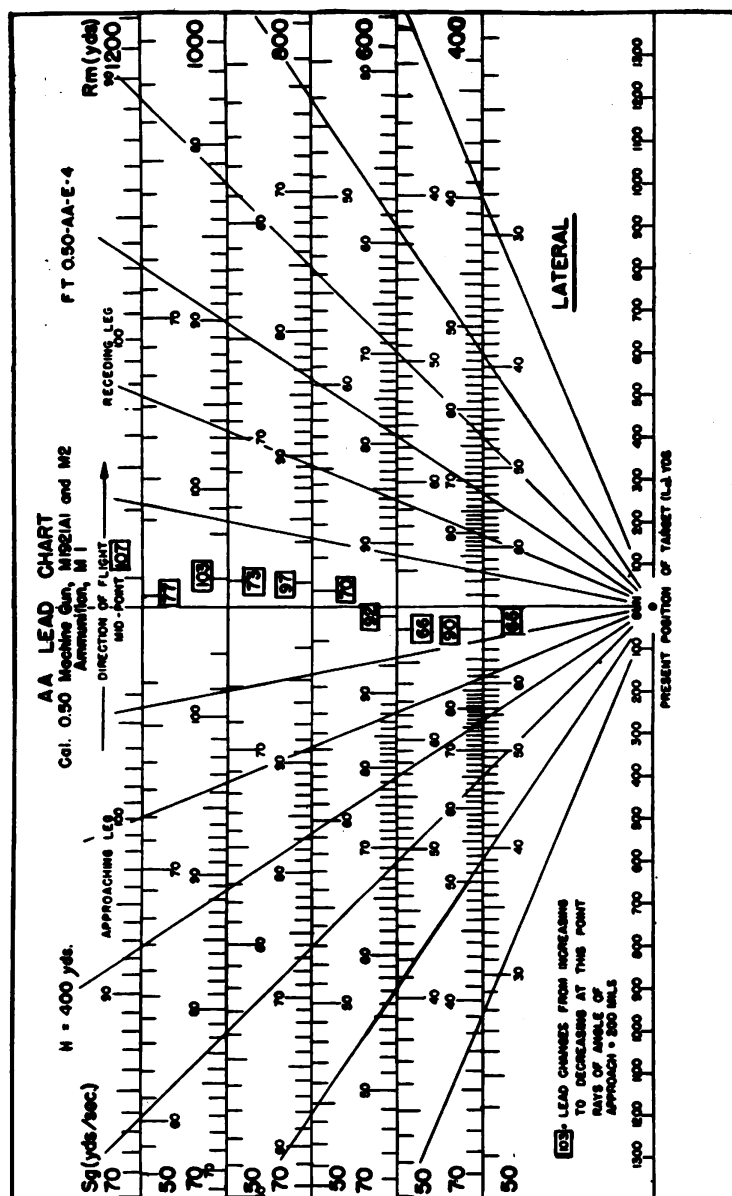

FIGURE 74.—Lateral lead chart.
Q. What factors influence the value of the leads? *A.* Ground speed of target (S_g), minimum horizontal range (R_m), altitude of target (H), muzzle velocity of the gun, angle of dive (for diving target only), and the position of the target (T_o), along the course.
Q. Explain just how an adjuster determines and applies either the vertical or lateral lead. *A.* From a study of lead charts (figs. 74 and 75 and of lead characteristics, from the use of tracer trainer where available, and from actual firing the adjuster gains the knowledge of initial leads for representative type courses and of the direction and rate of change of the leads during those courses. When a target approaches, he estimates the initial lead that will be required at the point where he expects fire to be opened, based on the course and speed of the airplane, and sets this into the control box. If fire is delayed, he sets in new initial leads continuously by changing the leads in the proper direction and at the required rate. When fire is opened, he adjusts his rate of change of leads based on his own and the flank spotter's observation of the tracers. For example, if the tracer stream is moving farther and farther ahead of the target on the approaching leg (fig. 74) of a constant altitude crossing course, the lead is being increased too rapidly. The necessary adjustment of fire would be accomplished by reducing the rate at which the leads are being changed.
44. Lead charts.—*Q.* What is a lead chart? *A.* A representation of the required leads for one or more courses arranged conveniently for ready reference (figs. 74 and 75).
Q. To what does the lead chart in figure 74 apply? *A.* It is the lateral lead chart for caliber .50 machine guns firing M1 ammunition at targets flying on crossing courses at a constant altitude of 400 yards.
Q. What is meant by the minimum horizontal range (R_m)? *A.* The horizontal range to the target at the midpoint of the course (figs. 74 and 75). This is the point where the angle of approach equals 90° .
Q. What minimum horizontal ranges are represented by the courses shown in figure 74? *A.* 400, 600, 800, 1,000, and 1,200 yards. (See heavy numerals on right edge of chart.)
Q. What are the initial leads for the following courses shown in figures 74 and 75 (angle of approach 800 mils on the approaching leg)?
(1) R_m 1,000; H 400; S_g 50?
(2) R_m 600; H 400; S_g 70?
A. (1) Lateral lead—56 mils.
Q. From a study of the lead charts (figs. 74 and 75)—
(1) Approximately where does the maximum lateral lead occur on a constant altitude crossing course?
(2) Approximately where does the maximum positive vertical lead occur on a constant altitude crossing course?
A. (1) At the midpoint.
(2) At the beginning of the course.
Q. Considering figure 74, is the lateral lead increasing or decreasing on—
(1) The approaching leg?